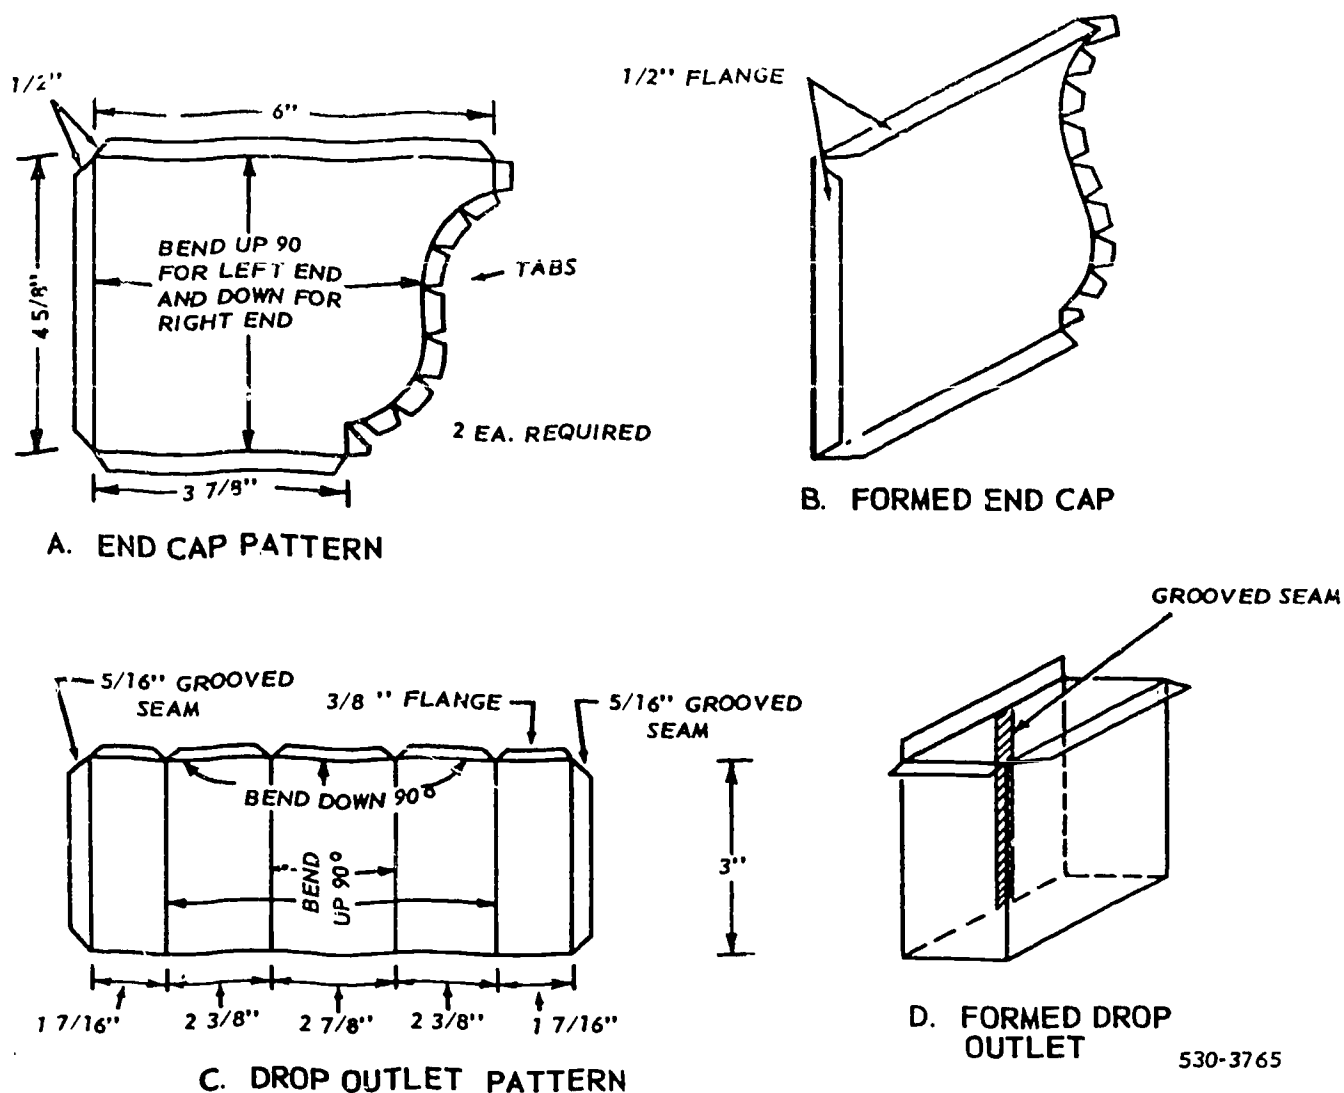

Figure 3-26. Patterns for gutter parts.
A of figure 3-26. Make the seam allowances and notching instructions, as shown in the illustration. Using the cornice brake, form the ½-inch flanges on the three sides that are not notched. Start with the 3 ⅞-inch bottom flange. After the first bend is made, let the flange extend past the top leaf as the metal is clamped (to prevent damaging the flange). Form the notched tabs on the ends of a conductor stake and a square stake. Using a tinner's riveting hammer, bend the tabs at the curved part of the pattern edge on the conductor stake; bend these at the straight parts of the edge on the square stake. Remember to bend one cap for the left end and one cap for the right end.
**Drop outlet.** The next component is a downspout drop outlet, such as that shown in view D of figure 3-26. Make the pattern (view C) with a ⅜-inch flange allowance across the top, and a ½-inch allowance for the 5/16-inch grooved seam. Form the grooved seam on the cornice brake or Pittsburgh lock forming machine. Notice that the seam will be on the back side when the outlet is installed. Next, bend the ⅜-inch flanges for all sides except the back, which should remain straight to fit against the back of the gutter. Make these bends on the square stake by placing the bend line on the edge of the stake and striking the flange with a tinner's riveting hammer.